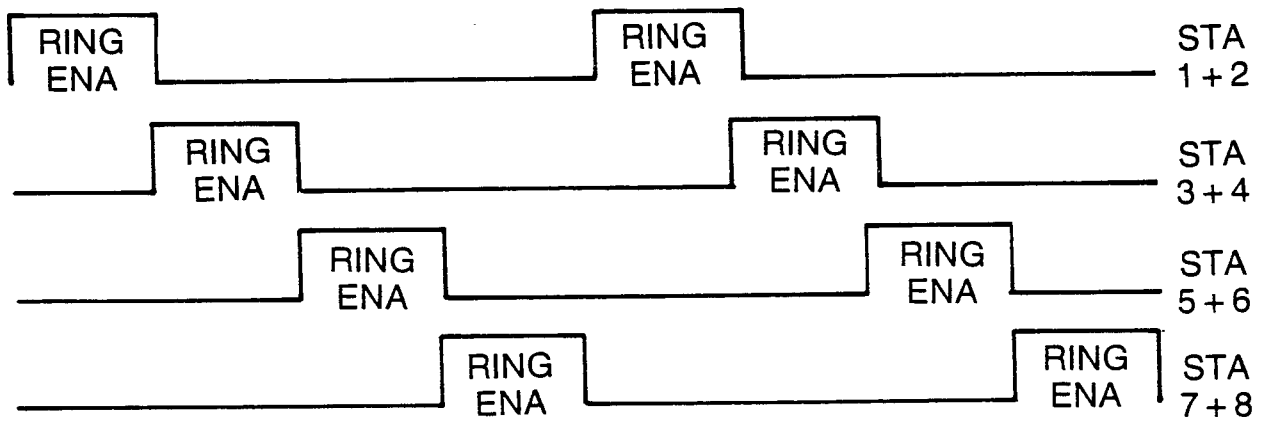

Figure 12 8B-SLU-B PCB RING ENABLE CYCLES
5.02 Ring Equivalence Number (REN) considerations when connecting off-premise stations are provided in Figure 12.
Figure 12 shows the relationship between the ring enable signals found on one SLU card. The ring equivalence number (REN) of the station pairs shown (1 and 2), (3 and 4), (5 and 6), (7 and 8) must not exceed 5.0B, when both stations in each pair be addressed to ring at the same time.